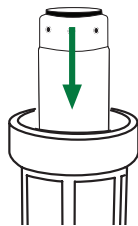

Figure 7
- 9** Place filter into housing. Align housing to filter head and screw it onto filter head. Hand tighten until snug and tighten with wrench to seal. **DO NOT OVER-TIGHTEN.** (See Figure 7).